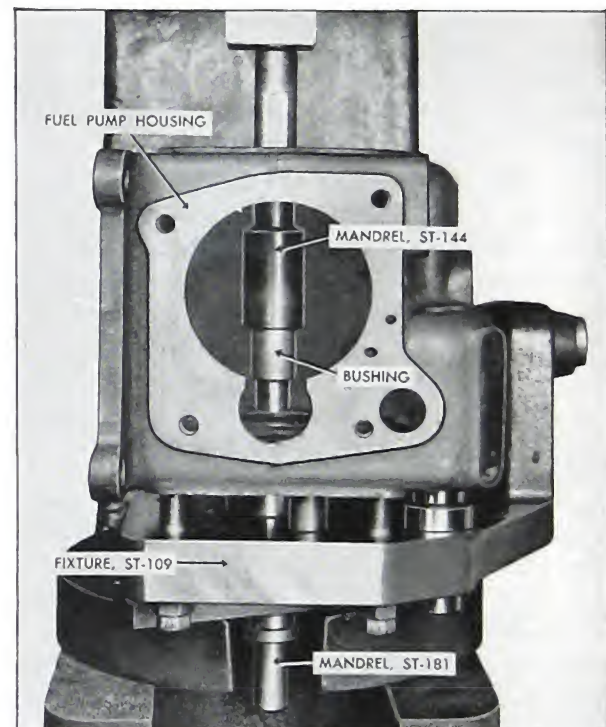

Fig. 5-106. Installing governor control rod bushing
5. Put mandrel, ST-181, in fixture, ST-109, and assemble governor control rod bushing on ST-181 mandrel. Use mandrel, ST-144, to press the bushing in the housing as shown in Fig. 5-106.